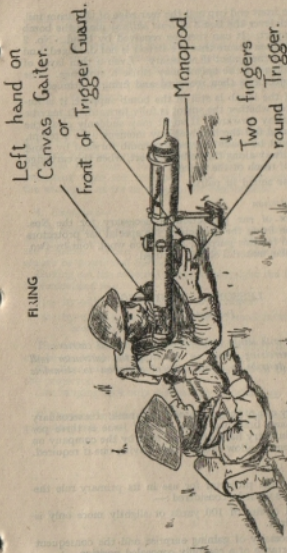

FIG. 6
5. Holding and firing (Fig. 6)